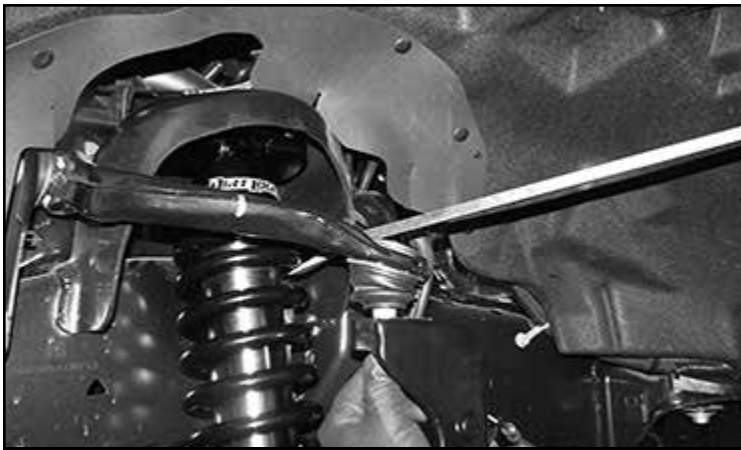

**FIGURE 35 - STEP 35**
35. Re-install the 4WD actuator using the 3 factory bolts. Torque to 29 ft-lbs. **SEE FIGURE 35**